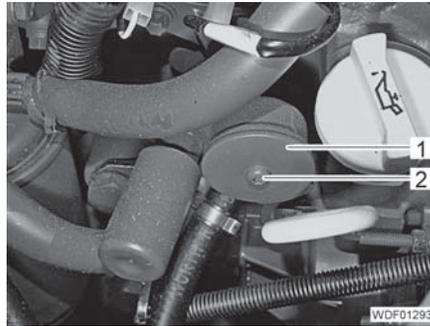

Fig. 91 Cover attachment
- Unscrew the screw (Fig. 91,2).
- Remove the cover (Fig. 91,1) with sieve filter.
- Insert new cover (Fig. 91,1) with sieve filter.
- Screw in and tighten the screw (Fig. 91,2).